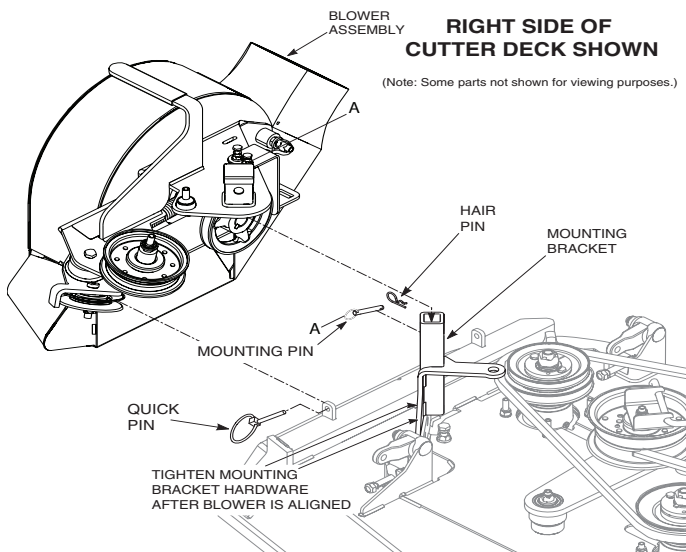

Figure 2-7. Blower Installation
9. Install the blower assembly to the mounting bracket and secure with the mounting pin. See Figure 2-7.
10. Align the blower assembly with the discharge opening of the cutter deck. Tighten the hardware for the mounting bracket. See Figure 2-7.
11. Install the quick pin through the hole in the front discharge chute mounting bracket. See Figure 2-7.